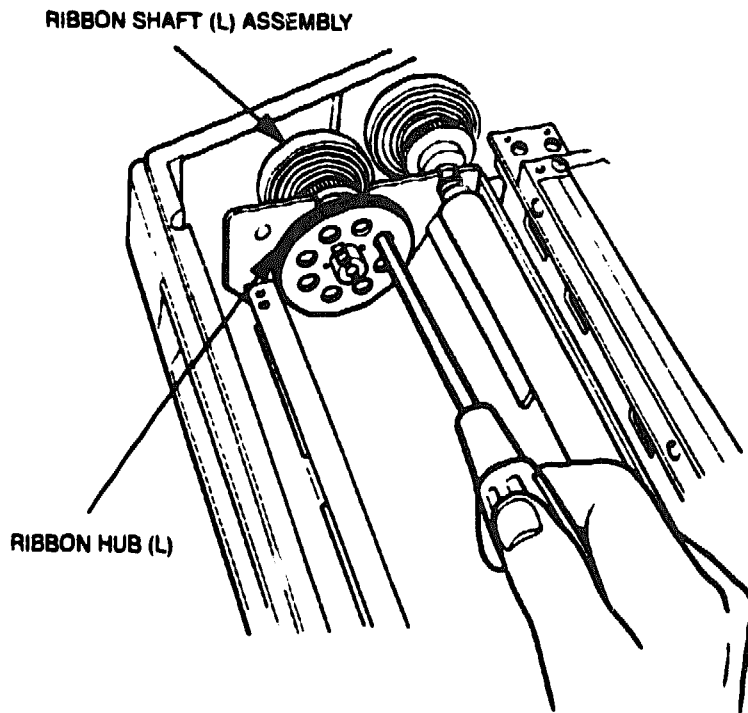

Figure 6-8 Ribbon Shaft (L) Assembly Removal
3. As shown in Figure 6-8, insert a screwdriver into the holes in the ribbon hub (L) assembly and remove the three screws on the bushing assembly. Slide the ribbon shaft (L) assembly to the right and remove it from the lower side frame (L).